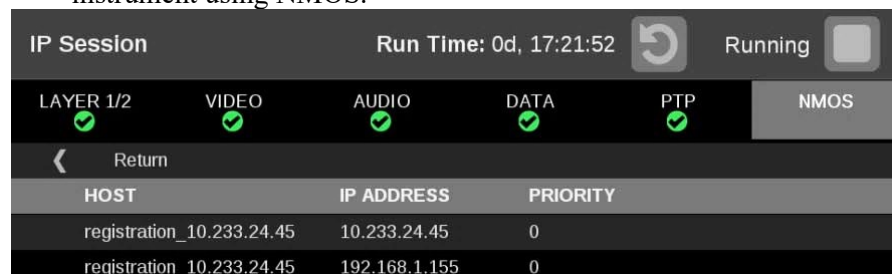

Figure 154: Registration Server List display
- **Registration server:** Shows the Host Name and IP Address of the registration server. (See Figure 154.)